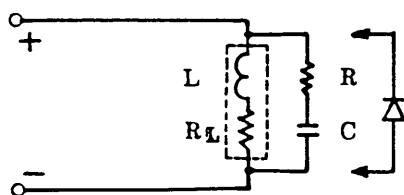

Figure 11
- o Provide a noise killer as shown in Figure 11. The constants may be $R = R_L$ and $C = R/R_L^2$.
(3) To Suppress Noise from Wiring for Load